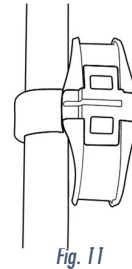

Fig. 11
3. Place the Decibel Cable Lock and U-bracket around the post so that the two tube-like holes of the U-bracket fit into holes on the back of the lock (Fig. 11). Ensure a snug and secure fit.